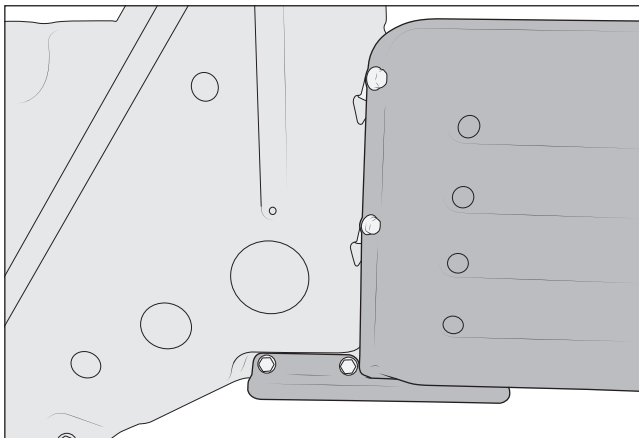

Figure 1
- A. Attach Fuel Skid to Transfer Case Skid using 4 M10 Hex Bolts (fig. 1). Support back of Fuel Skid with a jack.
3. Loosely install QTY 4 M10 Hex Bolts attaching the Fuel Skid to the Transfer Case Skid [If equipped](fig. 1).